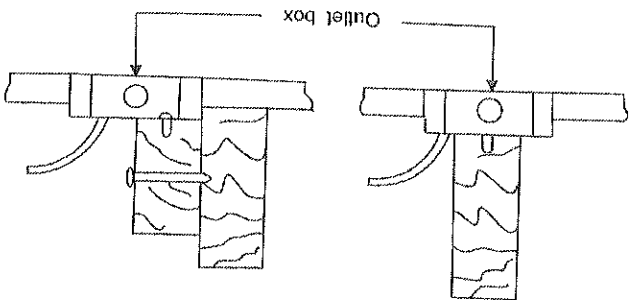

Figure 2
2. Remove the old bulb(s) and replace with the new bulb(s) (see Fig. 2).